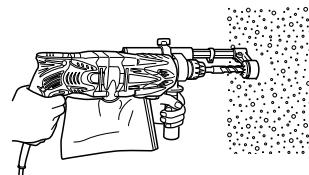

Fig. 8
- (1) Mount the drill bit.
- (2) Pull the trigger switch after applying the drill bit tip to the drilling position (Fig. 8).
- (3) Pushing the rotary hammer forcibly is not necessary at all. Pushing slightly so that drill dust comes out gradually is just sufficient.
- When the drill bit touches an iron reinforcing rod, the bit will stop immediately and the rotary hammer will react to revolve. Therefore please grip the side handle and handle tightly as shown in Fig. 8.